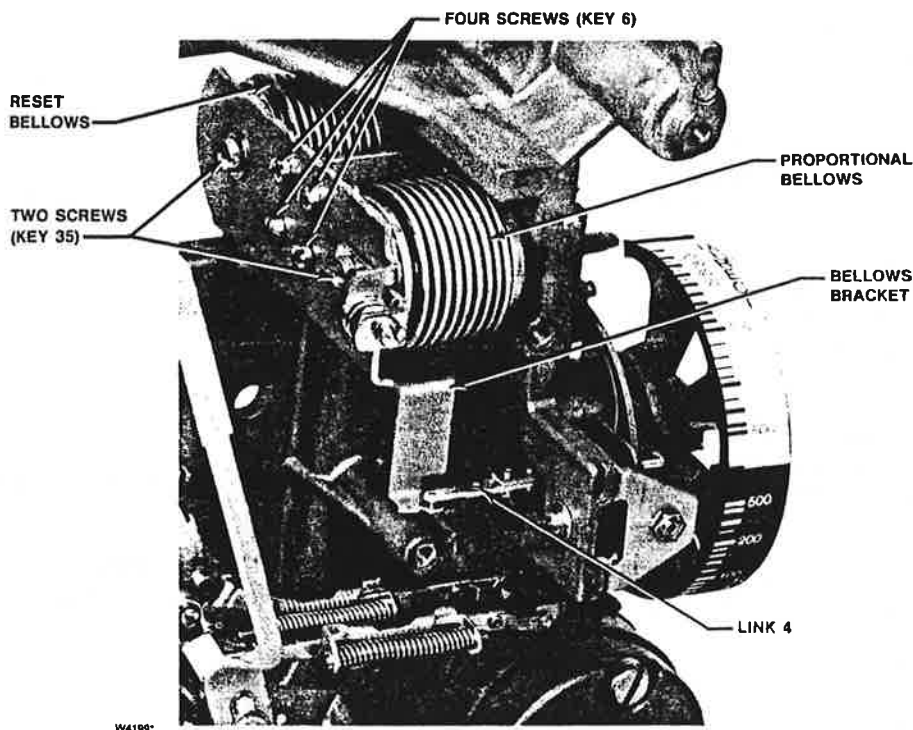

Figure 6-12. Cutaway View of Bellows Assembly
3. Please refer to figure 6-12 to locate the bellows assembly screws (key 31). Remove two screws (key 31) and washers (key 362) from the bellows assemblies.
4. Remove the four screws (key 6) from the bellows beam (key 49), and remove the bellows bracket (key 31).
5. Determine which bellows are to be replaced. Remove the proportional tubing assembly (key 40) from the proportional bellows and/or remove the reset tubing assembly (key 43) from the reset bellows.
6. Remove the four screws (key 71) from the bellows beam and remove the bellows beam from the frame (key 3).
7. Unscrew the bellows (key 48). If the bellows assembly cannot be removed by hand, thread a machine screw (key 35) into the bellows until tight, then apply a clockwise torque to the machine screw to loosen the bellows assembly.
8. Before installing the replacement bellows, coat the threads with a suitable lubricant (key 310). Screw in the replacement bellows until it is finger tight against the frame (key 3).
9. Reinstall the bellows beam (key 49) and tighten the four screws (key 71).
10. Install — but do not tighten — the two screws (key 35) and washer (key 362) through the bellows bracket (key 31) into the bellows. The washer must be under the screw that is threaded into the reset bellows (see figure 6-12 for the location of the reset bellows).
11. Compress the bellows and install — but do not tighten — the four screws (key 6) through the bellows bracket (key 31) into bellows beam (key 49). Ensure that the bellows bracket is aligned such that it does not rub on the frame (key 3) at any point. Tighten the screws (keys 6 and 35).
12. Replace the proportional and/or reset tubing assembly on the bellows base (key 48).
15. Replace link number 4 (key 65) on the bellows bracket. Ensure that the link does not contact the frame (key 3). If it does, loosen the four screws (key 6) which attaches the bellows bracket (key 31) and reposition the bracket to provide clearance. If repositioning is necessary, make sure that the bellows bracket also does not touch the frame.